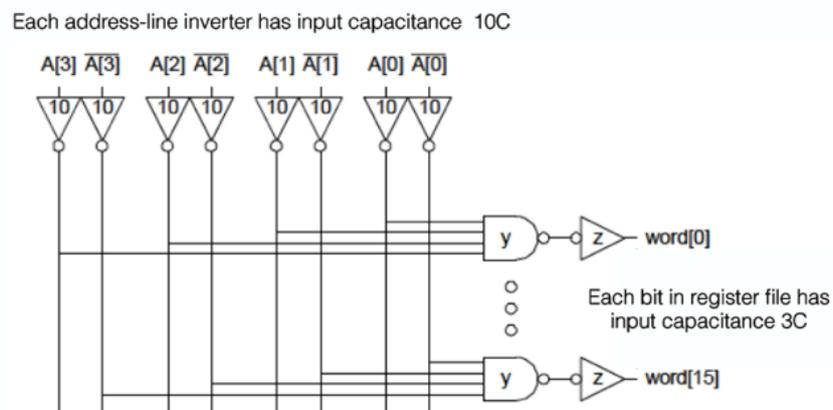

Figure 6.4: Detail of of 4-to-16 decoder for addressing register file.
In this problem your task is to size the decoder circuitry shown in detail in Figure 6.4.
- a) How should the 4-input nand gate (labelled y in Figure 6.4) and inverter (labelled z in Figure 6.4) be sized for minimum delay with the assumptions given in Figure 6.4? Assume that an nMOS transistor has twice the current of a pMOS transistor of the same width. (5 p)